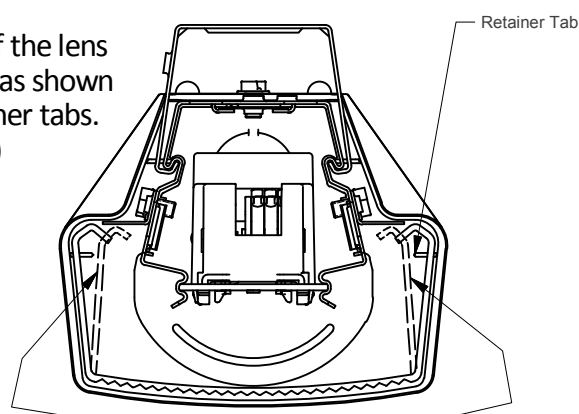

FIGURE 3: LENS
- 7) A. At one end of the lens press inward as shown to clear retainer tabs. (See Figure 3)